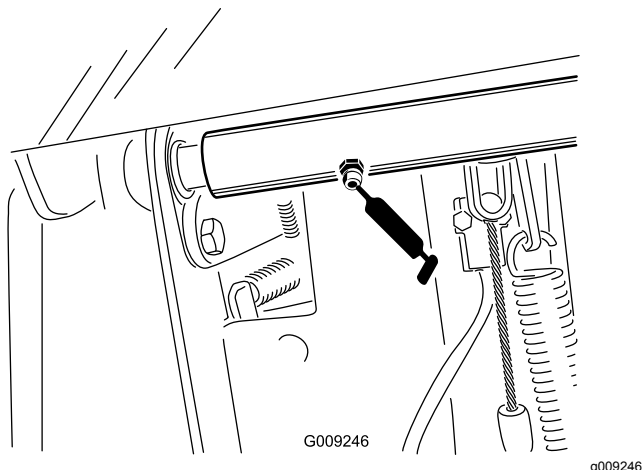

Figure 62
- 2 brake pedal pivot-shaft bearings (Figure 62)